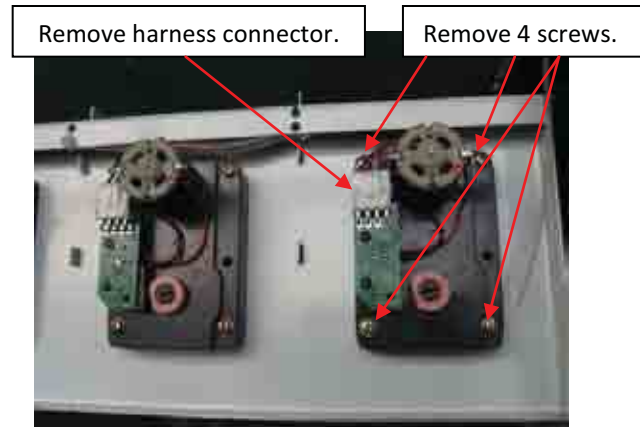

Figure 48 – Removing the motor
- c. Remove the harness connector and the 4 mounting screws (*Figure 48*)